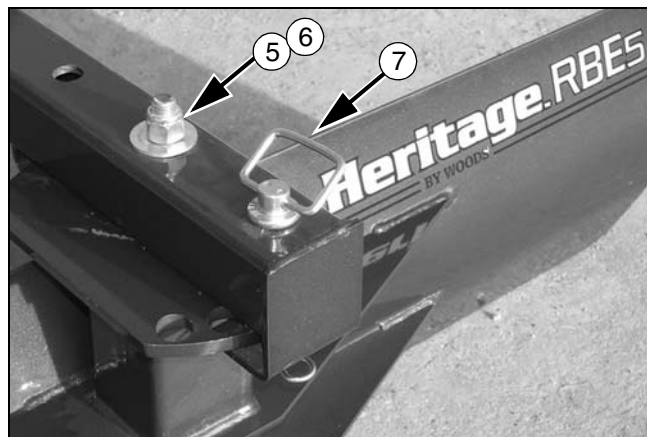

Figure 14. Hitch Attached to Rear Blade
2. Secure with the removed nut (5), washer (6) and pull pin (7) as shown in Figure 14.